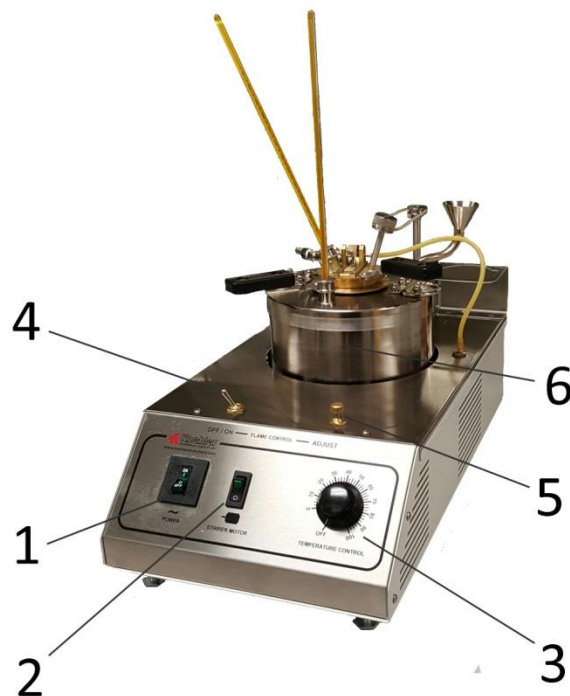
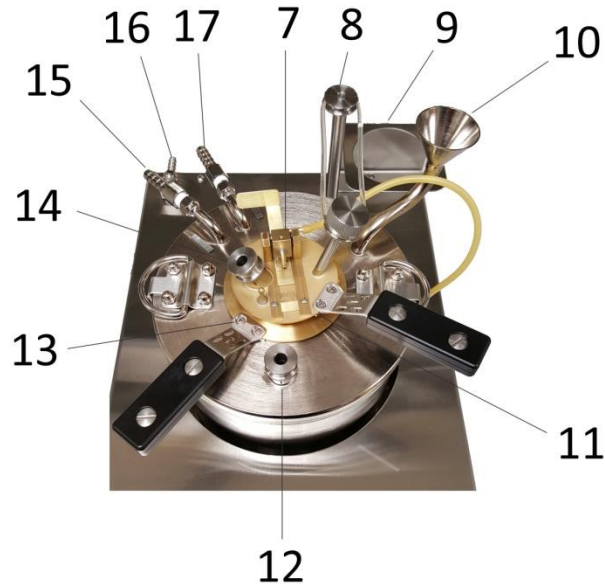

Figure 1. Instrument Descriptions (Front)
Figure 2. Instrument Descriptions (Top)
NOTE: Be sure Flame Control Switch (Figure 1, Item 3) is in the OFF position when Test Flame Applicator is not in use.
6. **Test Area and Heating / Cooling Bath.** See Figure 2 for detailed descriptions.
2. Place the IP 75C Thermometer in the reservoir Thermometer Port (**Figure 2, Item 12**).
3. Using the Funnel (**Figure 2, Item 10**) fill the reservoir with water or, for less than or near 0 °C bath temperatures, use a mixture of equal volumes of ethanediol and water, or glycerol and water, or silicone oil, or other suitable liquids, to completely fill the reservoir and to fill the inner air chamber that surrounds the test cup to a depth of at least 38 mm.
4. Adjust the temperature of the heating vessel using an external cooling bath or re-circulating chiller if required, to at least 9 °C below the expected flash or to -35 °C , whichever is higher. The external circulator can be connected to the Inlet / Outlet Ports on the Reservoir (**Figure 2, Items 15 & 17**).
5. Pour the sample in the test cup (**Figure 2, Item 13**) and place the test cup in position in the reservoir. Turn the test cup to lock it in its secure test position.
6. Place the cover assembly (**Figure 2, Item 11**) on the test cup and push it down into position.
7. Connect the clear belt from the Motor Rod (**Figure 2, Item 8**) to the Stirrer Shaft on the cover assembly
8. Place the IP 74C Thermometer in the test cup Thermometer Port (**Figure 2, Item 14**).
9. Connect the gas source to the Gas Inlet Port (**Figure 2, Item 16**) at the back of the unit and ensure that the gas tubing from side of the test flame dip applicator (**Figure 2, Item 7**) is properly connected to the gas outlet at right side of instrument.
10. Press the Flame Control On/Off switch (**Figure 1, Item 4**) to the ON position.
11. Light Test Flame Dip Applicator (**Figure 2, Item 7**) using external heat source.
12. Use a test flame approximately 5/23 of an inch in diameter, the same size as the test flame guide located on the cover assembly (**Figure 2, Item 11**). Turn the gas adjustment valve (**Figure 1, Item 5**) if needed, until the flame compares to the flame guide.
13. Press Power Switch (**Figure 1, Item 1**) to the ON position.
14. Turn Temperature Control Dial (**Figure 1, Item 3**) clockwise and apply heat to the vessel in such a manner that the temperature of the test sample in the test cup rises at a rate of approximately 1 °C/min from the first application of the ignition source to the end of the test.
15. Press the Stirrer Motor Switch (**Figure 1, Item 2**) to the ON position.
16. When the test specimen temperature is approximately 9 °C below the expected flash point or -35 °C, whichever is the higher, apply the ignition source by slowly and uniformly opening the slide (**Figure 2, Item 7**) over a period of approximately 2 seconds and then closing it over a period of approximately 1 second.